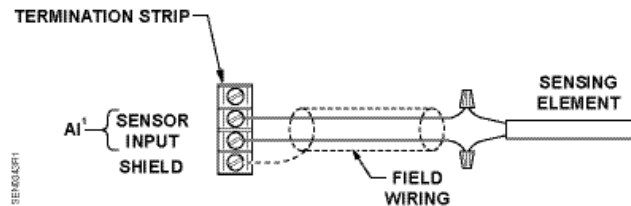

Figure 4. Typical Sensor Connection.
6. Connect the field wires to the applicable controller. See Figure 4.